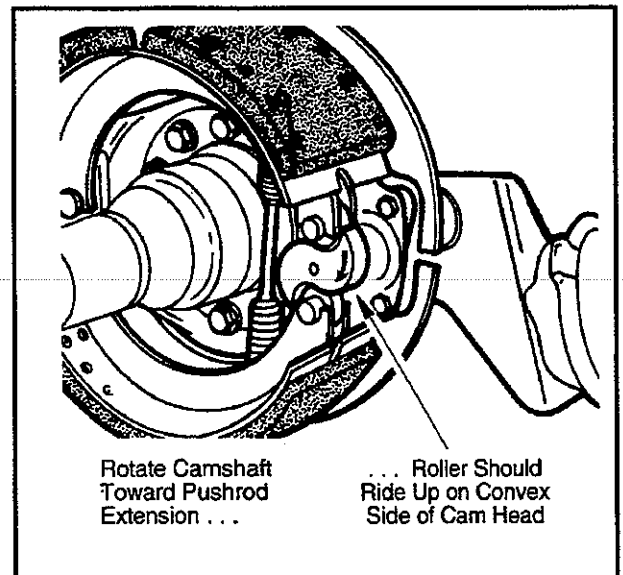

Figure 33—Rotate Camshaft
10. Check roller to make sure that roller is riding up on the convex side of cam head. (See Figure 33—Rotate Camshaft.)